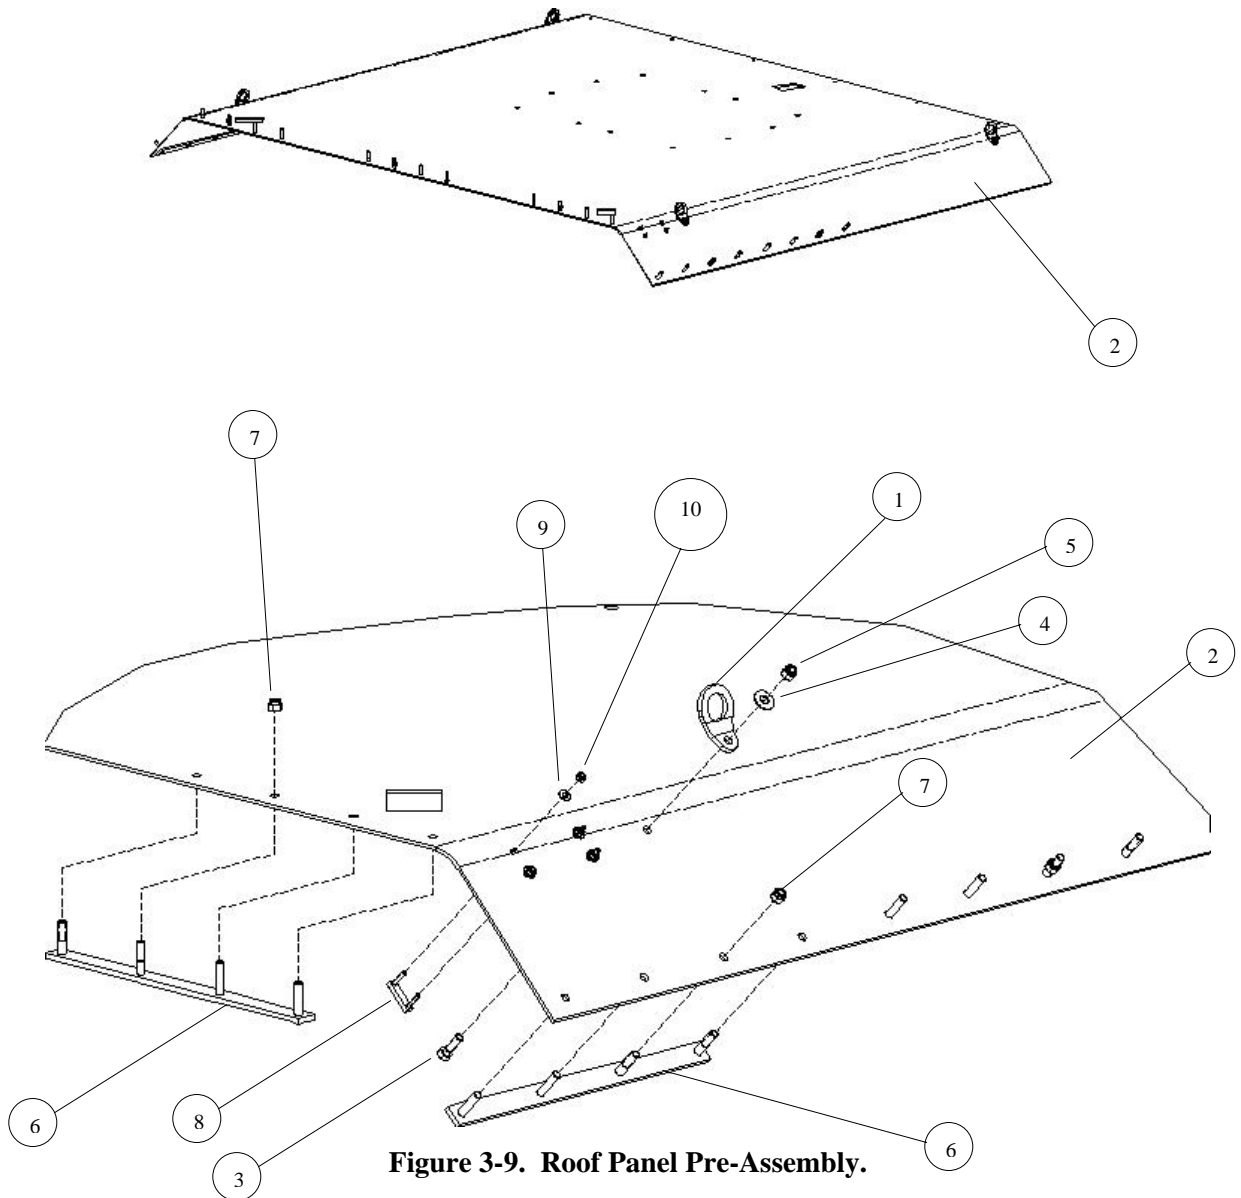

Figure 3-9. Roof Panel Pre-Assembly.
1. Install lift brackets, stud plates, and PLGR antenna mount brackets onto roof panel as follows (see Figure 3-9):
- a. Install four lift brackets (1) onto roof panel (2) and secure each with one bolt (3), flat washer (4), and locknut (5). Torque locknuts to 35 lb-ft.
- b. Install seven stud plates (6) onto roof panel (2) and secure each with one jam nut (7). Temporarily tighten jam-nuts (7).
- c. Install two PLGR antenna mount brackets (8) and secure each with two flat washers (9) and locknuts (10). Ensure locknuts are snugged down, but do not torque further at this time.